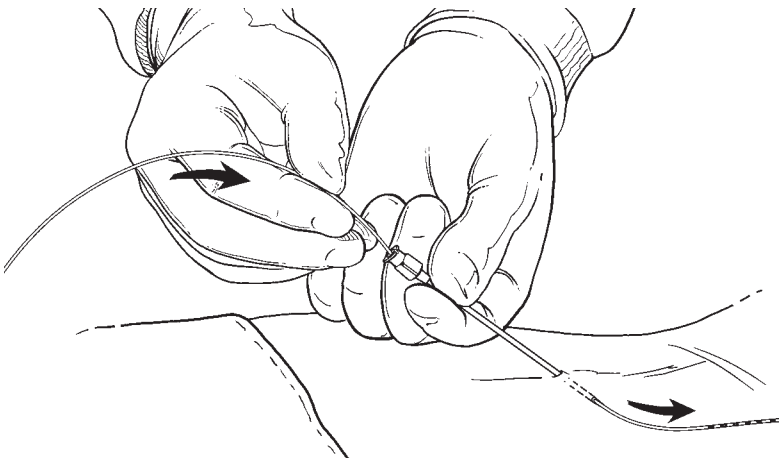

FIGURE 12
- 9 Using fluoroscopy, slowly insert the lead through the needle (FIGURE 12).